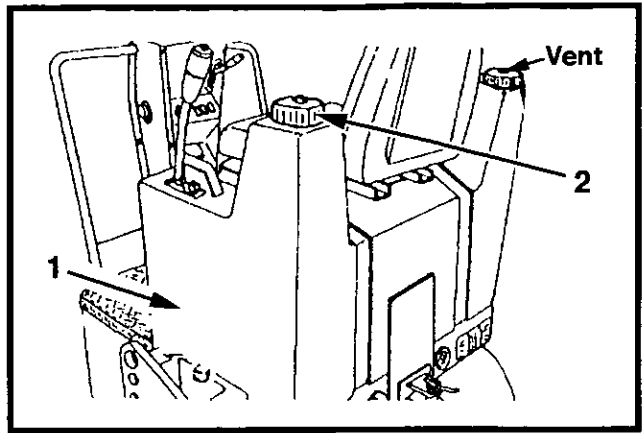

Figure 5-9 Water Tank and Fill Caps
The water supply for the water spray system is held in a tank (1, Figure 5-9).
2. If water level is low, remove the fill caps (2, Figure 5-9) located on the tank, and add clean water to the full level. Ensure the vent (Figure 5-9) is clear.